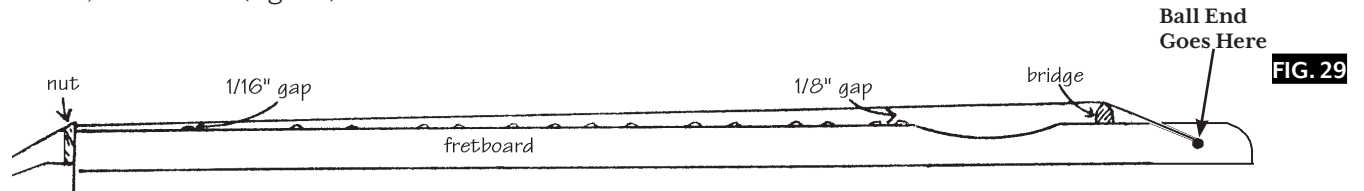

FIG. 29
- ___29. Now you can install the strings! Attach each string to the dulcimer by slipping the ball end into the hole near the tail end of the fretboard, and poking it in to about the proper depth to line up with the notches of the bridge. (fig. 29)